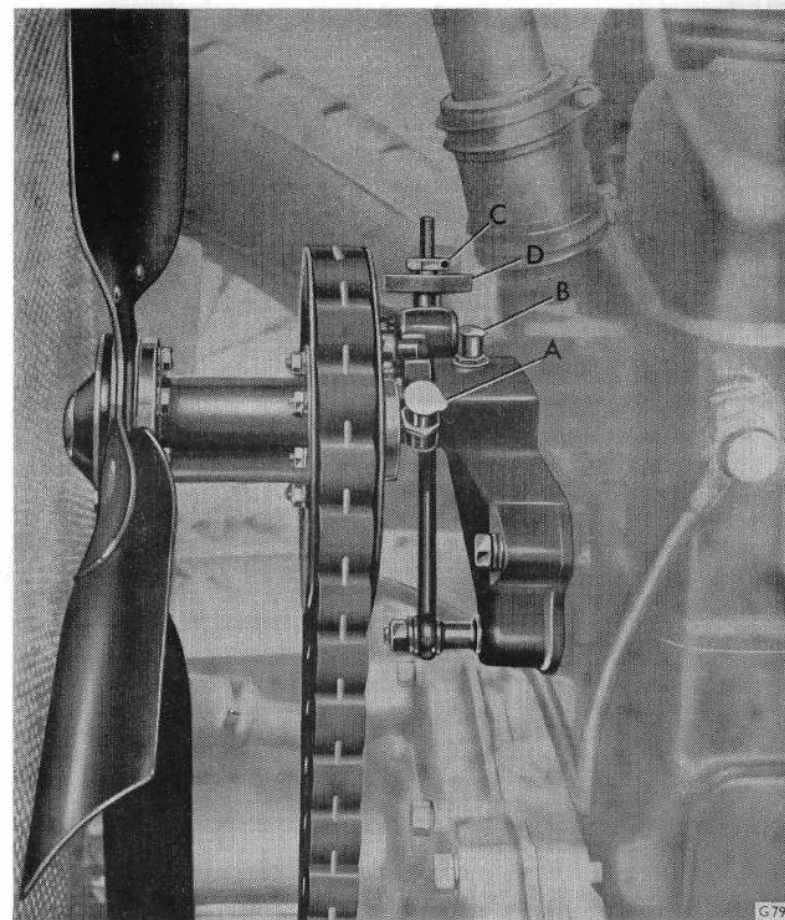

Fig. 9.—FAN.
9. Test fan belt for tightness, and adjust if necessary (see Fig. 9).
A few drops of engine oil should be injected into the lubricator of the fan **A**, and, on some chassis, **B** (Fig. 9).
The fan belt, if of the Whittle type (see Fig. 9) should be removed, scraped with a blunt knife, smeared with engine oil on the back (not on sides) and refitted. If of the later rubber and canvas type, this should be examined to see that it is not bottoming in the "Vee" of the pulleys, in this case it should be discarded and replaced with a new one.